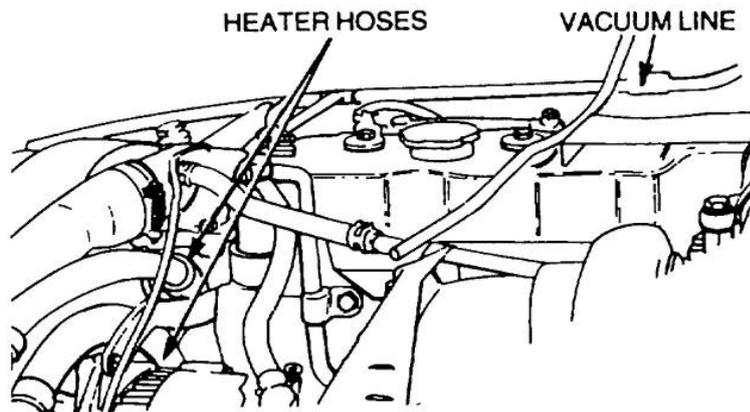

Figure 31 Installation of the Heater Hoses and Vacuum Line
- aa. Position the heater hose and vacuum line assembly on the engine. Insert the two retaining bolts through the mounting brackets and tighten the bolts securely. Connect the vacuum line to the brake servo and to the vacuum pump on the rear of the alternator and then install the rear engine lifting bracket. Tighten all bolts securely. Connect the heater hoses to the thermostat housing, the water pump and the heater inlet and outlet pipes (Figure 31) and tighten the hose clamps securely.